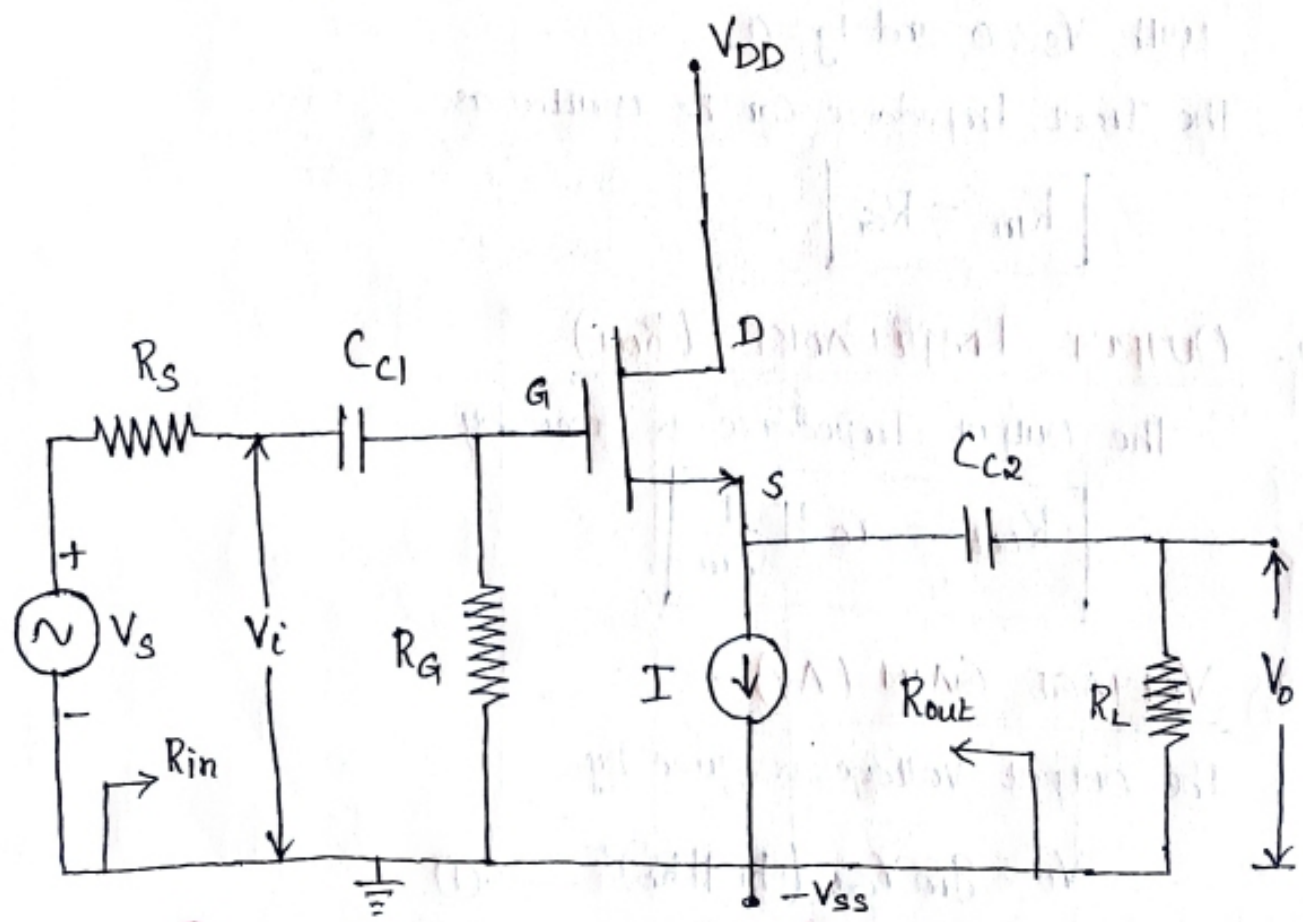

Fig. 1. MOSFET Common Drain Amplifier
The Input signal is fed at the Gate (G) similar to the Common Source (CS) Amplifier. The signal output is taken at the Source Terminal (S). The Source Follower using MOSFET is shown in figure 1.